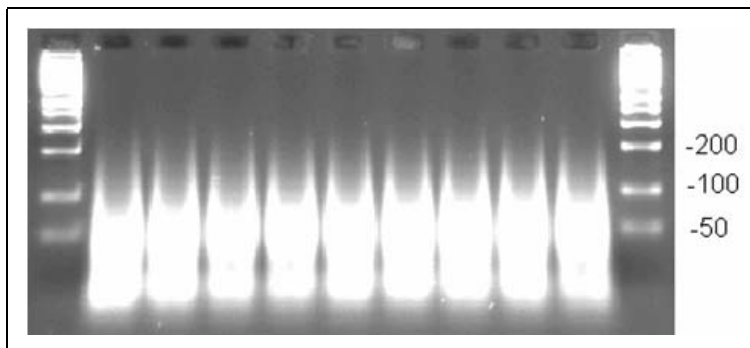

Figure C.3
12. Dilute 4 µL of fragmented PCR product with 4 µL gel loading dye and run on 4% TBE gel at 120V for 30 minutes to 1 hour. (See Figure C.3.)